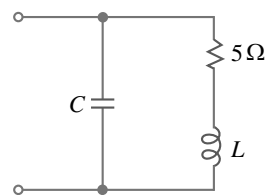

Fig. 13.8
**Example 13.4.** Calculate the impedance of parallel-tuned circuit shown in Fig. 13.8 at a frequency of 500 kHz and for bandwidth of operation equal to 20 kHz.